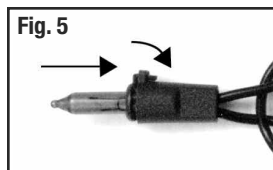

Fig. 5
- 3c. **MEMORY SHAPE® TREES** do not require branch shaping. Branches should fall into place during assembly. If any branches remain upright, gently lower them into proper position (Figure 5).
4. **SHAPING:** Branches should fall into place during assembly. If any branches remain upright, gently lower them into proper position (Figure 5). See **IMPORTANT NOTE** below.
4. Carefully insert new bulb into socket and push down Base Lock™ until it snaps into place (Figure 5).